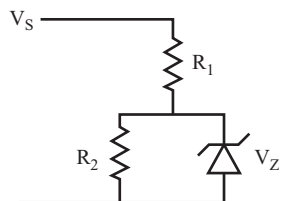

FIGURE 12.2
20. For the circuit shown in Figure 12.2,  $V_s = 100\text{ volts}$ ,  $R_1 = 7.2\text{ k}\Omega$ ,  $R_2 = 4\text{ k}\Omega$ , and  $V_z = 28\text{ volts}$ . Find the current through the zener diode,  $I_z$ . \_\_\_\_\_
- 21.** For the circuit in Figure 12.2,  $V_S = 10$  volts,  $R_1 = 1\text{ k}\Omega$ ,  $R_2 = 10\text{ k}\Omega$ , and  $V_Z = 6.3$  volts. Find  $I_Z$ . \_\_\_\_\_